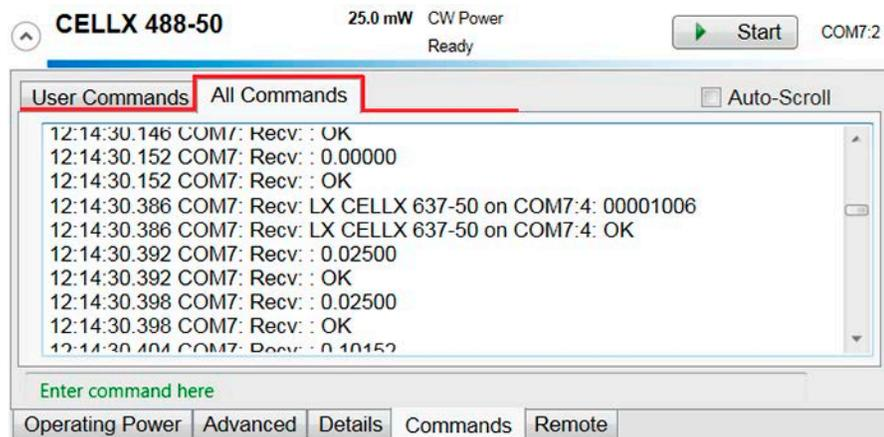

Figure 7-12. Coherent Connection–All Commands Tab
- Click the **All Commands** sub-tab to view all commands in use, as shown in the example in Figure 7-12.